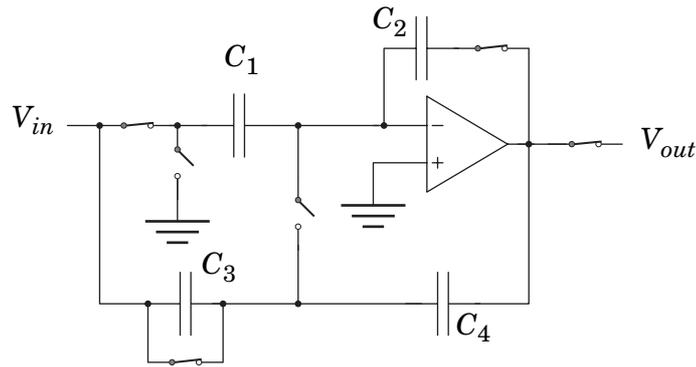

Figure 4.1 A switched capacitor circuit.
A switched capacitor circuit in clock cycle 1 is shown in Figure 4.1.
- a) Derive the transfer function for the clock cycle 1 of the switched capacitor circuit shown in Figure 4.1, i.e., $V_{out}(z)/V_{in}(z)$. Assume that the OTA is ideal except that it suffers from an offset voltage, V_{os} . (8p)